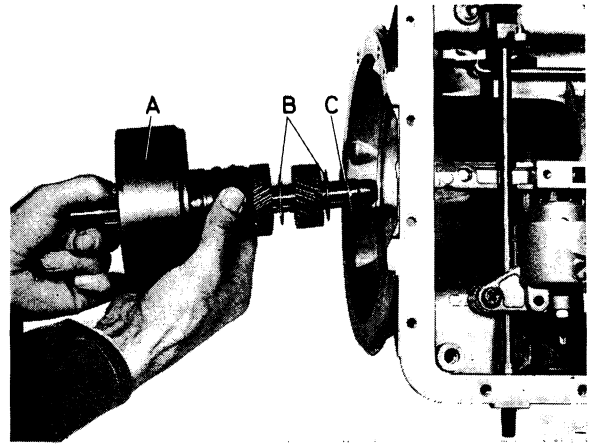

Fig. 4-102. Installing rear clutch and forward sun gear group
16. Install the rear needle thrust bearing and fit the clutch in the gearbox as shown in Fig. 4-102.